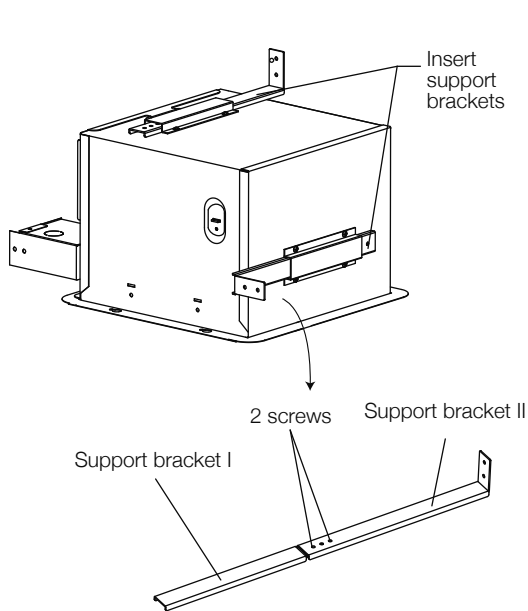

Figure 1
1. Insert the support brackets in the slots on the fan housing. If spacing between joists is 21 ¼" to 23 ½" (54 cm to 59.7 cm) connect support brackets I and II (Fig. 1).